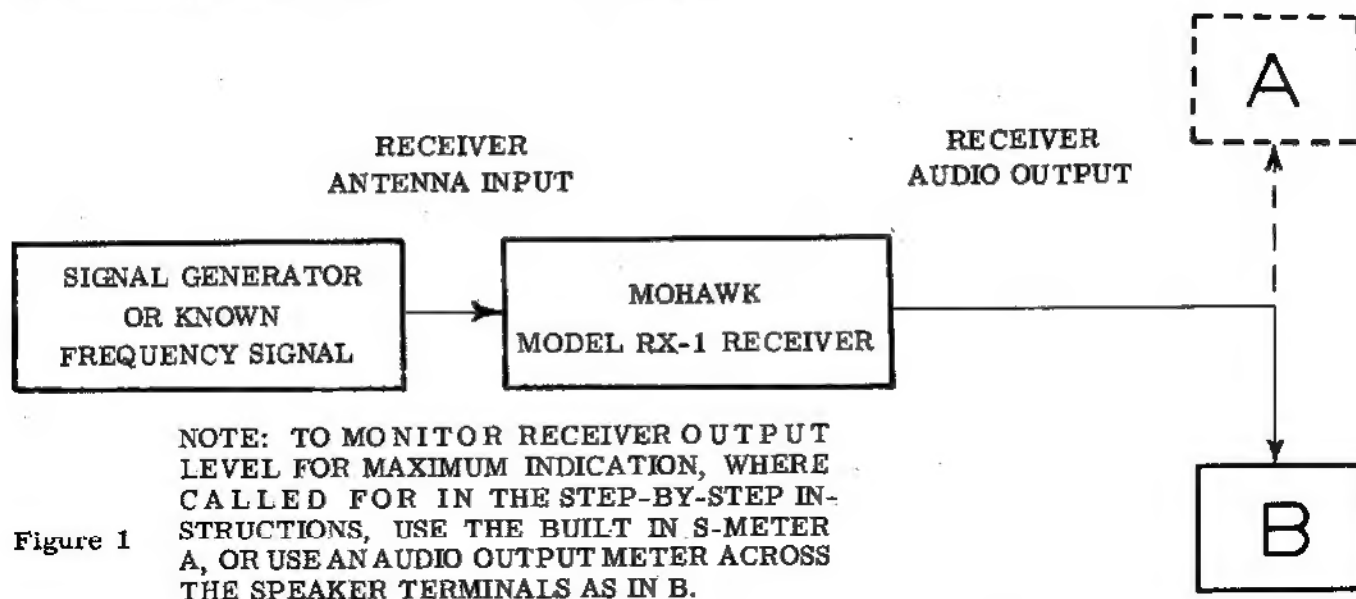

Figure 1
- () Note the output level either on the S meter or on an audio output meter, as shown in Figure 1.